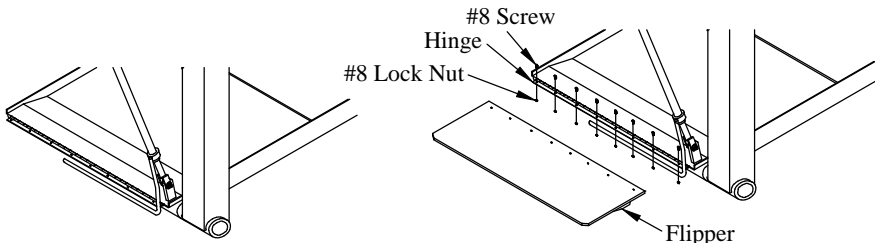

Figure 22: Flipper arm assembled.
11. **Reinstall** the self-closing rod and 3/8" x 1-1/4" bolt weldment (Figure 22).